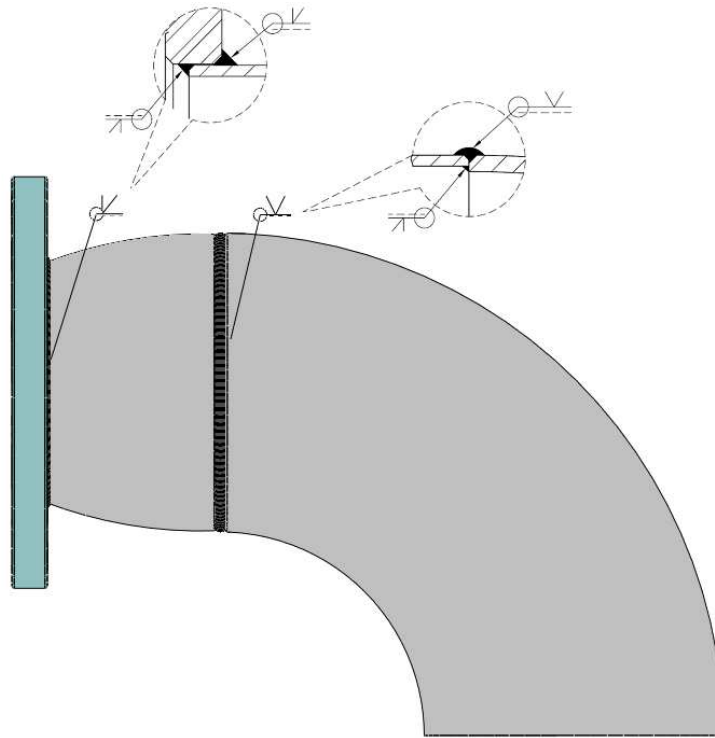

Figure 2.4 Discharge and suction piping
1. Please weld steel pipes onto flanges by butt-welding and make sure debris has been cleaned, otherwise the compressor might be damaged during running. Flow velocity in the discharge side of the compressor could be as high as 15~20 m/sec. High-speed discharge gas will make noise in discharge connection. In order to decrease the noise level, it's recommended to round sharp edges of joints of piping as shown in Figure 2.4